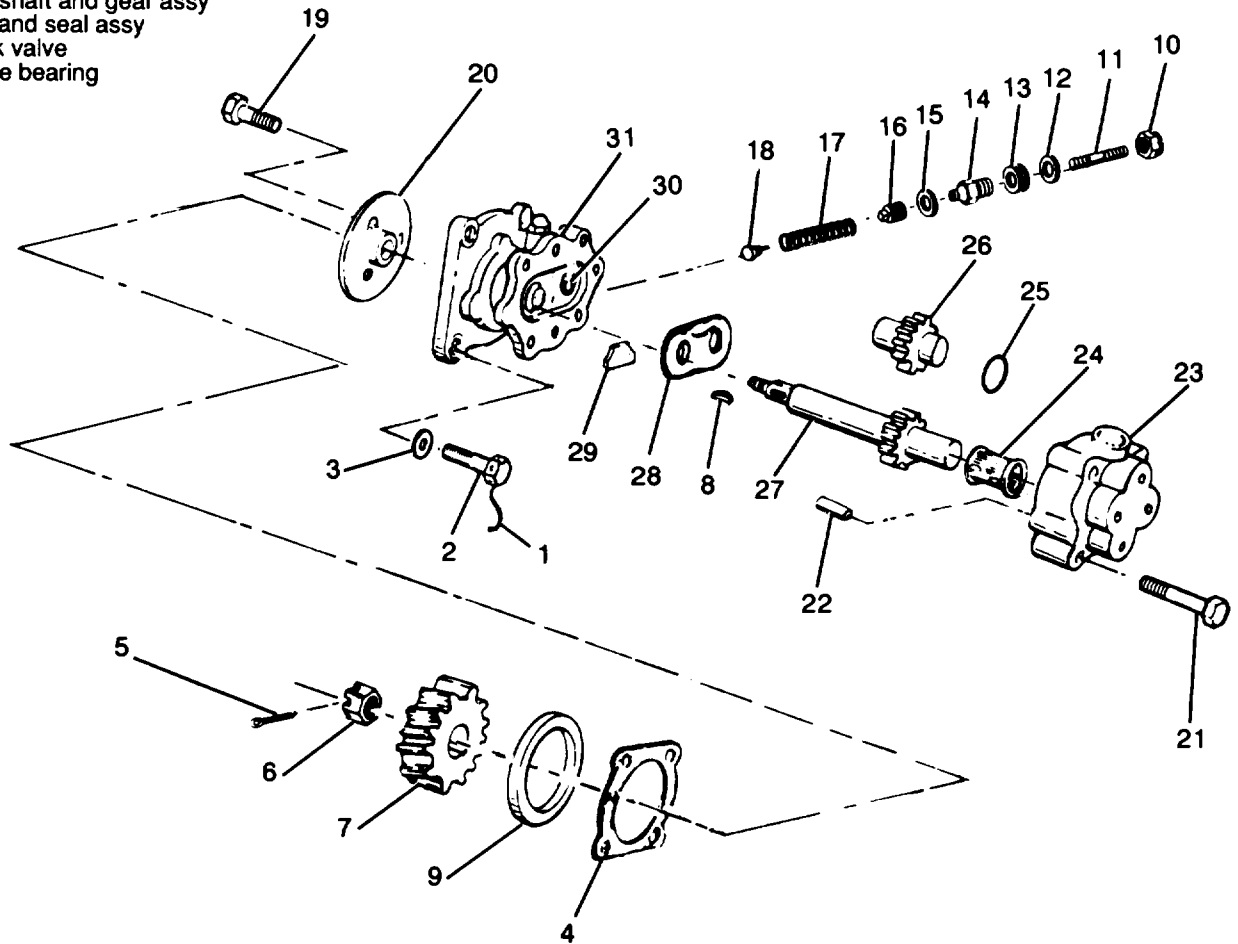

Figure 3-34. Hydraulic Pump Assembly, Exploded View
- (1) Refer to the Operator and Unit Maintenance Manual and drain the hydraulic sump.
- (2) Remove hydraulic lines and fittings from hydraulic pump assembly.
- (3) Remove lockwires (1, figure 3-34), screws (2) and flat washers (3) to remove hydraulic pump assembly and gasket (4). Discard gasket.
- (1) Install hydraulic pump assembly on a suitable test stand and provide a means of rotating at approximately 600 RPM.
- (2) Connect a hydraulic line to pump assembly inlet.
- (3) Connect a hydraulic line equipped with a pressure gauge, and a restriction valve to the pump assembly outlet.
- (4) Operate pump at approximately 600 RPM.
- (5) Close restriction valve until pressure gauge reads 320 ± 10 PSI. If 320 ± 10 PSI is not obtainable, loosen locknut and adjust pressure relief valve screw until 320 ± 10 PSI is reached.
- (6) Slowly close the restriction valve while observing the pressure gauge. The pressure should drop. If not, continue to adjust pressure relief valve screw until pressure does drop.
- (7) Loosen locknut and adjust pressure setscrew (11, figure 3-34) until pressure gauge indicates 320 ± 10 psig.
(8) Tighten locknut and remove hydraulic pump assembly from test hookup.